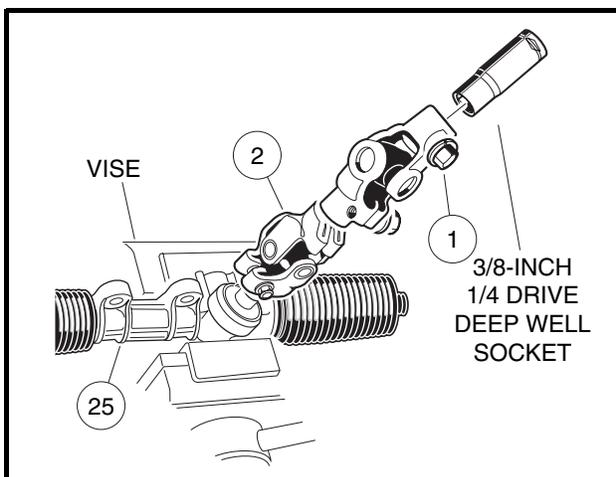

Figure 7-15 Rack and Pinion Resistance
- 11.2. Insert a 3/8-inch deep well socket into the steering column end of the universal joint (2) and tighten the bolt (1) to 15 ft-lb (20.3 N·m) (**Figure 7-15, Page 7-11**).